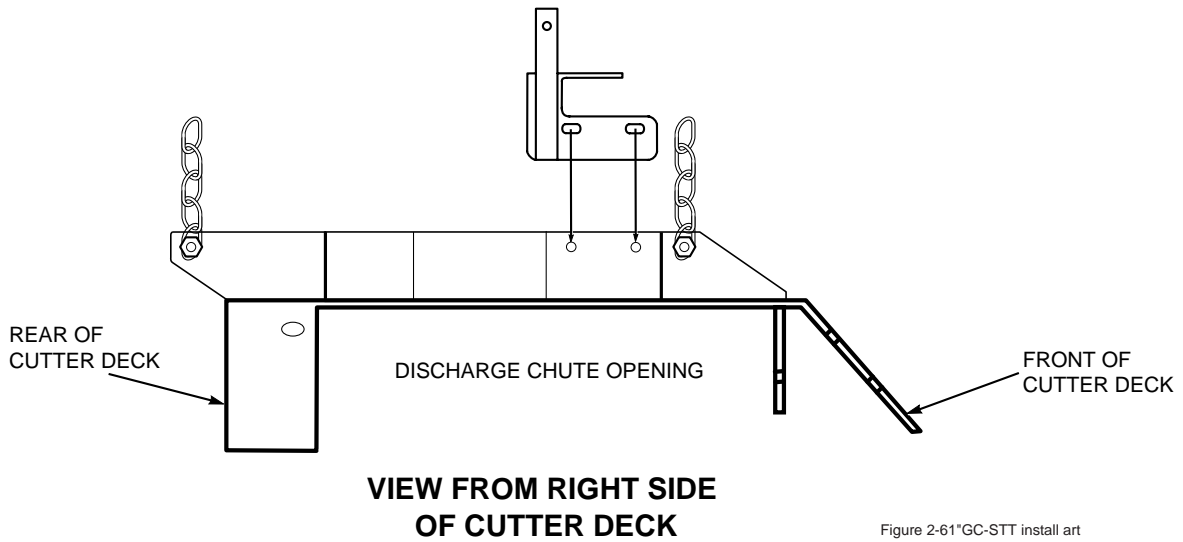

FIGURE 3-4
6. Install the blower mounting bracket to the deck using 1/2-13 x 1-1/2" hex head bolts (p/n 04001-71), 1/2" spring lockwashers (p/n 04030-06), and 1/2-13 elastic stop nuts (p/n 04021-07). See Figure 3-3, Page 3 for 52" decks and Figure 3-4, Page 4 for 61" decks. Do not fully tighten the hardware at this time.